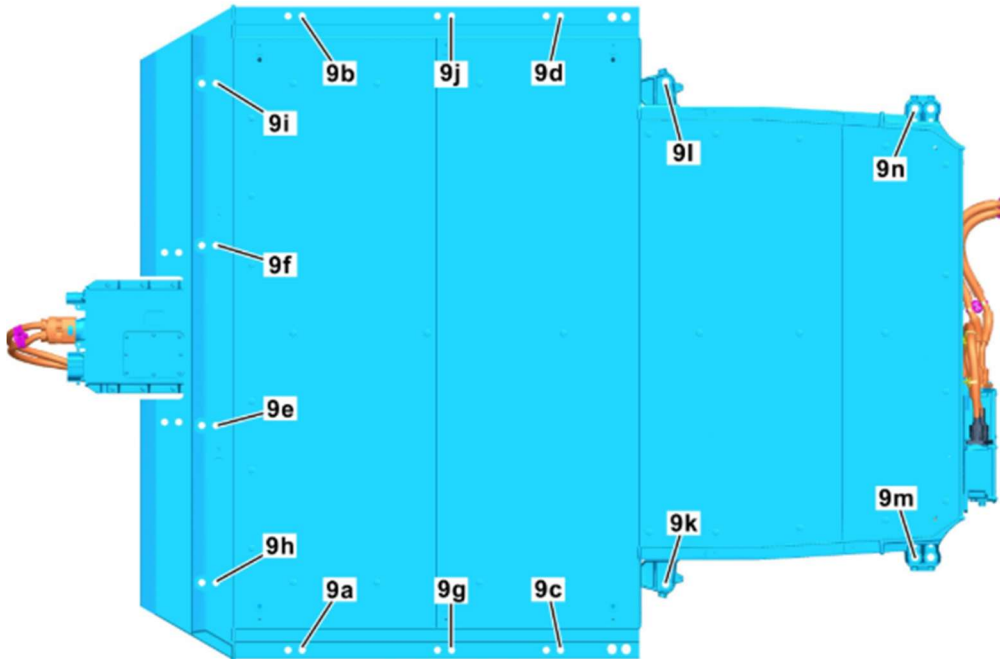

Figure 4
19. Unscrew **14 hexalobular screws (Figure 4, 9a-9n)** – *Single-use fasteners, must be replaced.*
36. Tighten new screws (Figure 4, 9a–9j) slightly by hand, remove drifts, torque to specification in alphanumeric order. **BA47.70-P-1003-01A**
37. Position new screws (Figure 4, 9k–9n) in compensating elements, torque to specification in alphanumeric order. **BA47.70-P-1003-01A**